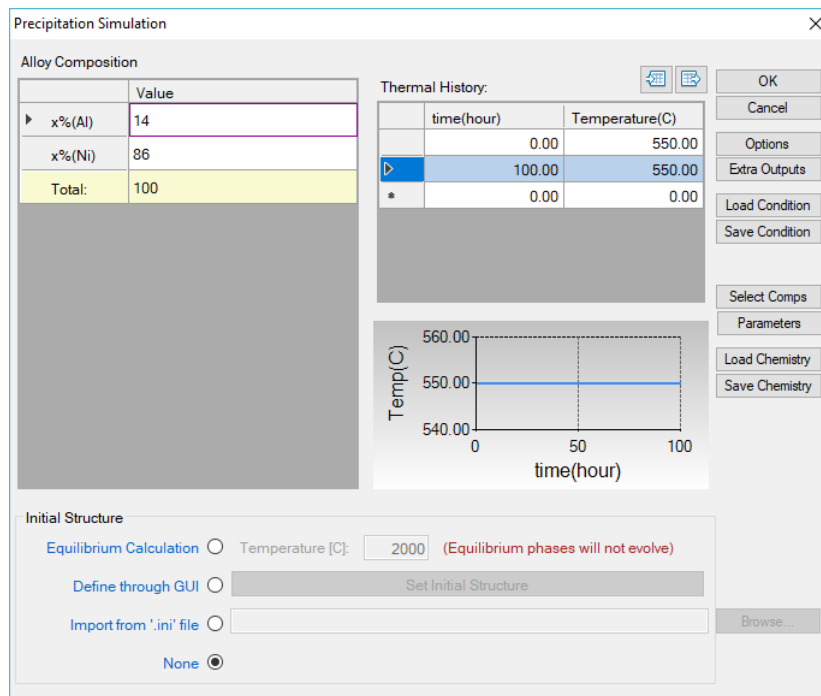

Figure 3.1.3: Setup the alloy chemistry (Ni-14 at%Al) and heat treatment condition (isothermal ageing at 550°C) for the simulation
- Click on PanPrecipitation on the menu bar and click Precipitation Simulation. A dialog will pop out as shown in Figure 3.1.3, set up the alloy chemistry on the left and the heat treatment condition on the right. In this setting, an isothermal ageing is performed at 550°C assuming the initial state is pure Fcc phase;